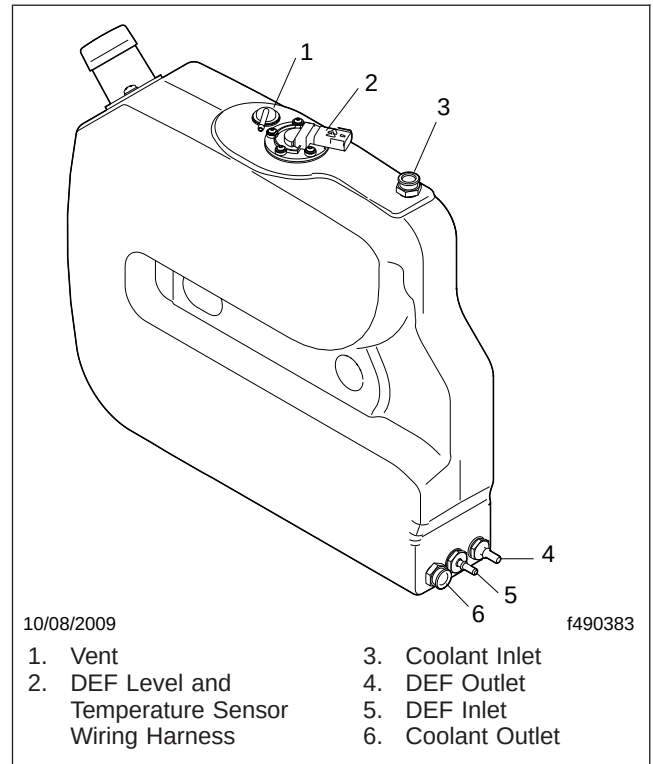
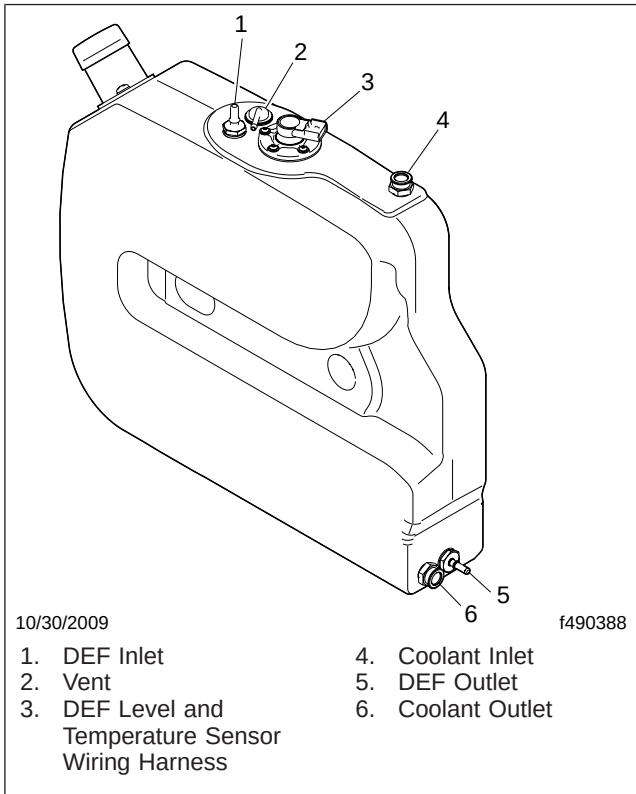

Fig. 1, 6-Gallon Tank Ports (Detroit Diesel shown)
Fig. 2, 6-Gallon Tank Ports (Cummins shown)
6. Disconnect the DEF lines from the supply and return ports and let the DEF drain into the drain pan. See Fig. 1 or Fig. 2.